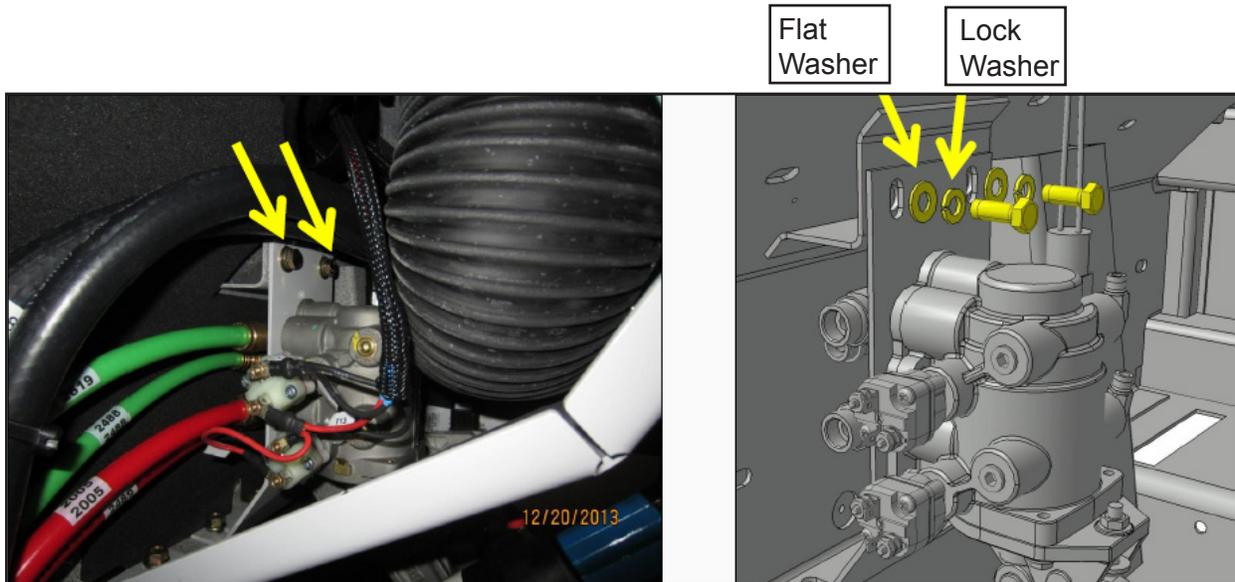

Figure 16: Reinstall 3/8" bolts and nuts on top of bracket.
21. Install and finger tighten the two (2) **new** sets of 3/8" bolts (420AX1), lock washers (351AX), and flat washers (362AX) at the top of the bracket (Figure 16). There are no nuts on the back side of these bolts.